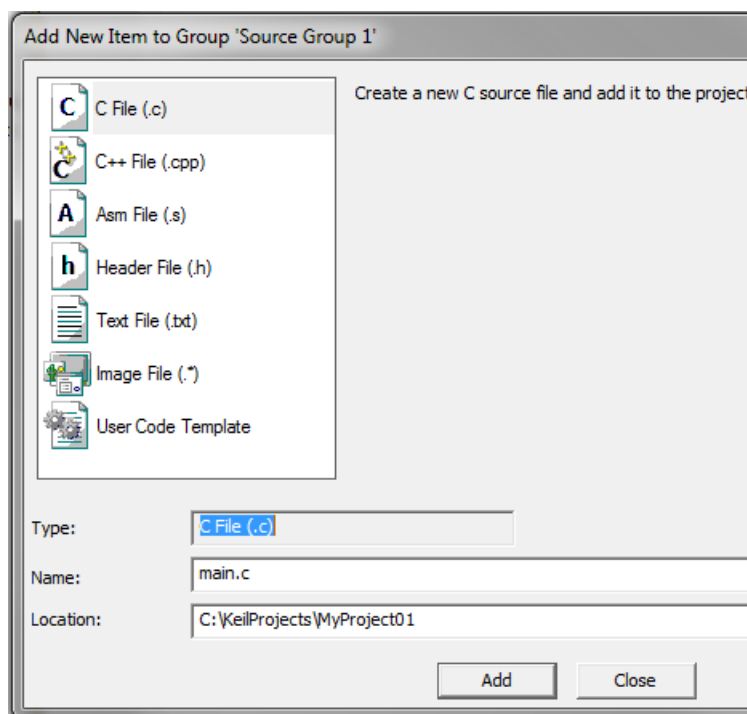

Figure 1-33. Adding new source file dialog
2. Select the C File (.c) option, and type a name of the file into the Name box, for example 'main.c'. See Figure 1-33.